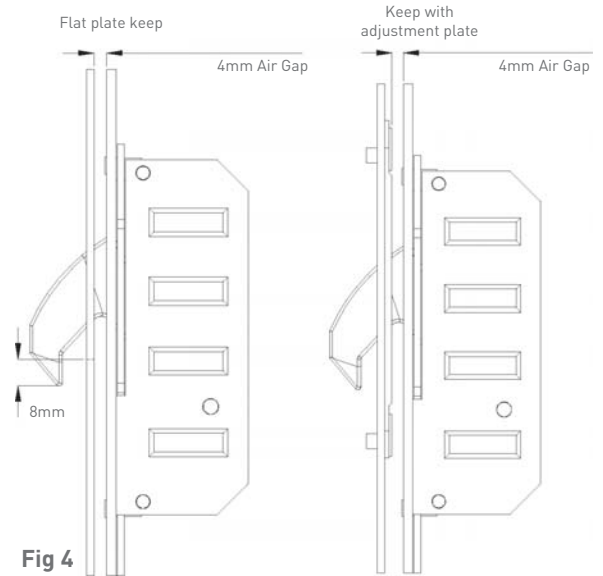

Fig 4
- Winkhaus single pocket keeps again should not need adjustment up or down once correctly fitted. However, the centre keep can be checked as above. A simple check for the hook keeps is as follows; throw the hooks with the door open and mark the tip of the thrown hook on the face of the door frame ensuring that the tip of each hook is no more than 8mm below the aperture of the hook keep. See Fig 4.
- As a general rule there should be a 4mm gap between the lock faceplate and the face of either, the compression adjustment plate or the flat face of the hook keep where no adjuster is present. See Fig 4.